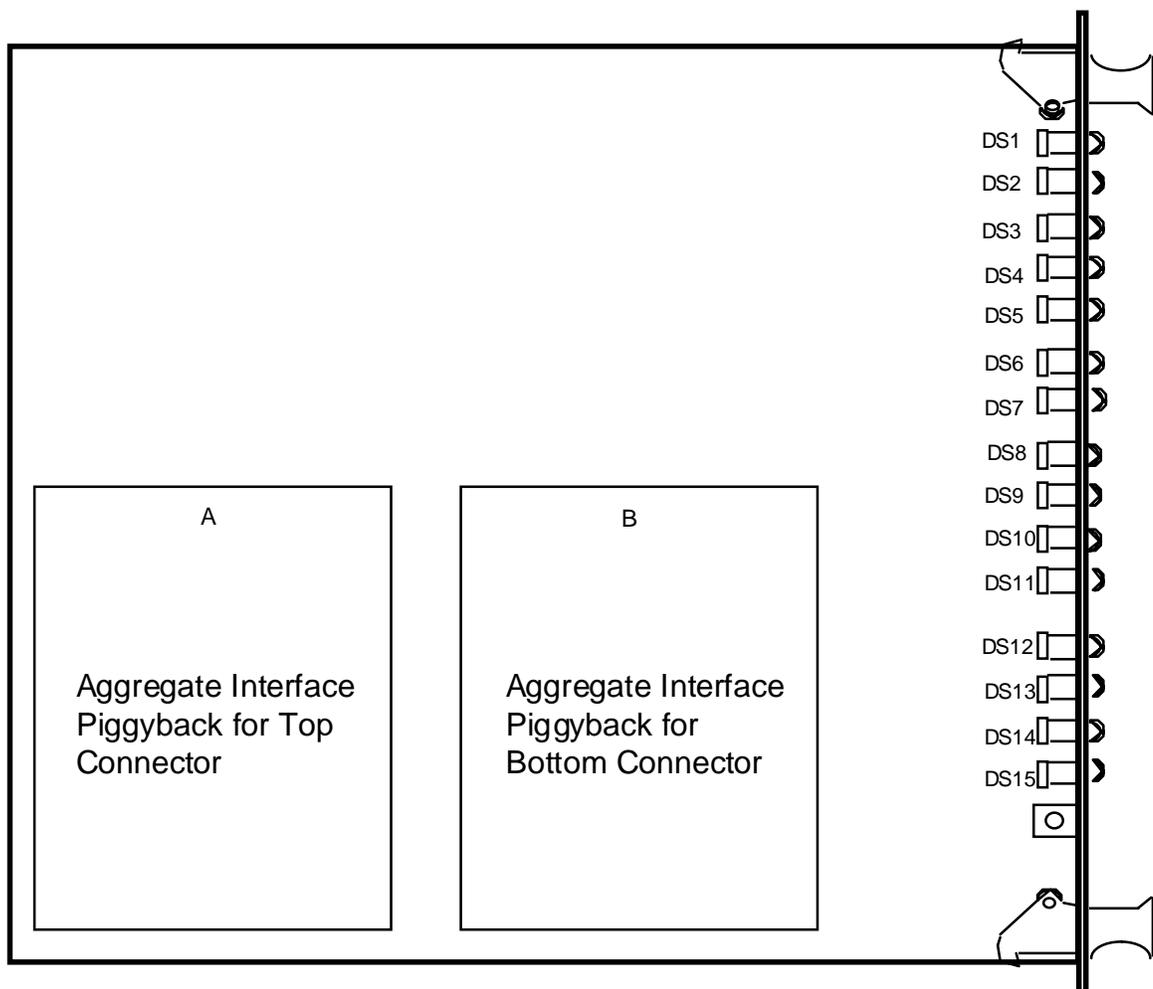

Figure 2-4 Aggregate Interface Piggyback Placement for Diversity
4. For diversity, place the piggyback interface card for the lower connector on the right. Place the piggyback interface card for the upper connector on the left. *See Figure 2-4*.